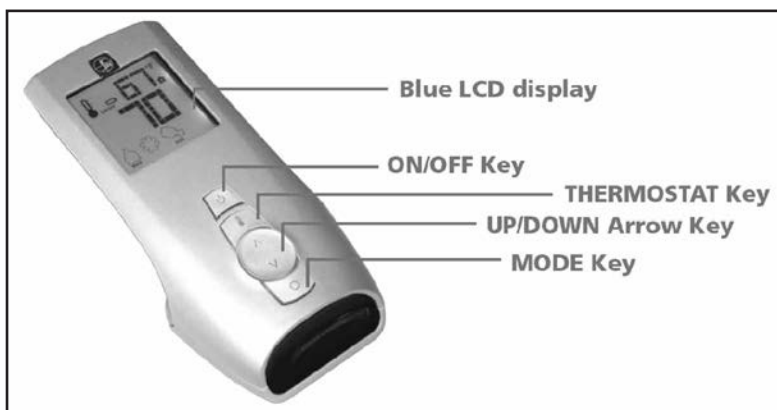
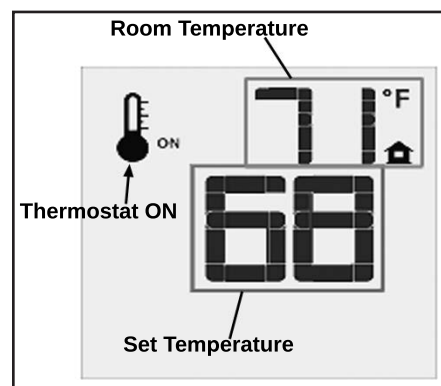
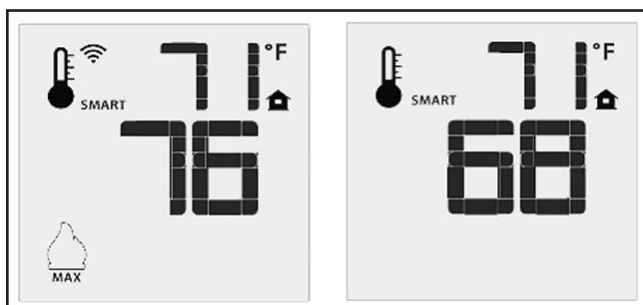

Figure 6: Proflame Transmitter.
Figure 12: Remote Control Displays Set Temperature.
Figure 13: Remote Control's Smart Flame Function.
The Proflame Transmitter uses a streamline design with a simple button layout and informative LCD display (Figure 6). The Transmitter is powered by three (3) AAA type batteries. A Mode Key is provided to Index between the features and a Thermostat Key is used to turn on/off or index through Thermostat functions (Figure 6 & 7).
Press the ON/OFF Key on the Transmitter. The Transmitter LCD display will only show the room temperature and Icon (see Figure 12). A single “beep” from the Receiver confirms reception of the command and both the pilot light (if the unit is not set to continuous pilot) and main burner will turn off.
The Remote Control can operate as a room thermostat. The thermostat can be set to a desired temperature to control the comfort level in a room. To activate this function, press the Thermostat Key (see Figure 6). The LCD display on the Transmitter will change to show that the room thermostat is “ON” and the set temperature is now displayed (see Figure 12). To adjust the set temperature, press the Up or Down Arrow Keys until the desired set temperature is displayed on the LCD screen of the Transmitter.
The Smart Thermostat function adjusts the flame height in accordance to the difference between the set point temperature and the actual room temperatures. As the room temperature gets closer to the set point the Smart Function will modulate the flame down. To activate this function, press the Thermostat Key (Figure 6) until the word “SMART” appears to the right of the temperature bulb graphic (Figure 13). To adjust the set temperature, press the Up or Down Arrow Keys until the desired set temperature is displayed on the LCD screen of the Transmitter.